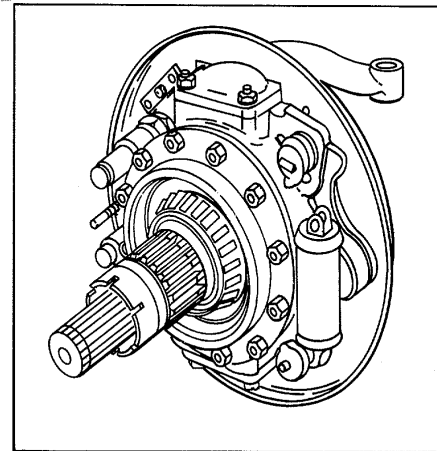

Figure 13.
On planetary axles equipped with hydraulic brakes, the complete disassembly of the brakes is not necessary for the removal of the hub spindle. Adequate working clearance is provided by only removing the brakeshoe return spring (refer to Fig. 13).
1. If the brakeshoe and liner assemblies are to be removed for service or inspection, unhook and remove the brakeshoe return spring (refer to Fig. 13).
4. If the brakeshoe and liner assembly are to be removed for service or inspection, unhook and remove the brakeshoe return spring (refer to Fig. 13).